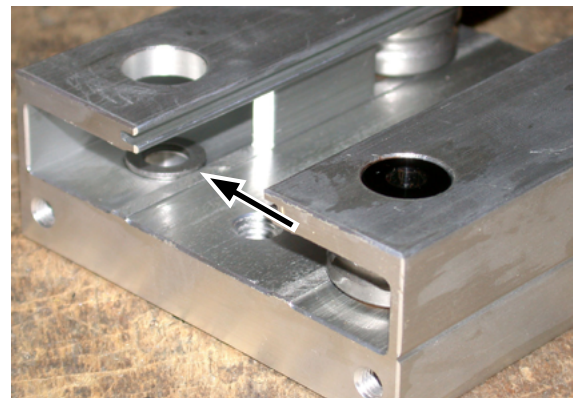

Figure 7-8: Make sure the spacer is in its proper position before inserting the new bearing.
8. Carefully reposition the spacers (Figure 7-8).